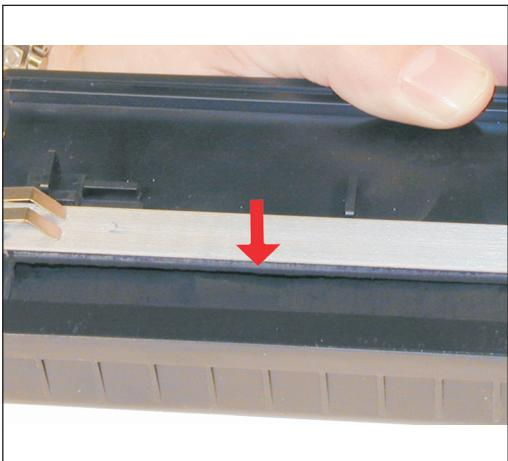

Figure 16
- 13) Clean the working edge of the doctor blade with a Scotch-Brite pad and alcohol. See Figure 16